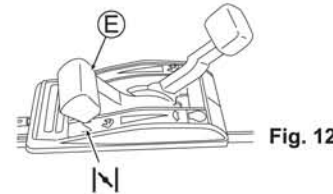

Fig. 12
3. Set Throttle lever (E) to Choking "N". (See Fig. 12) (The engine can start by setting the lever at "N" when it is warm.)